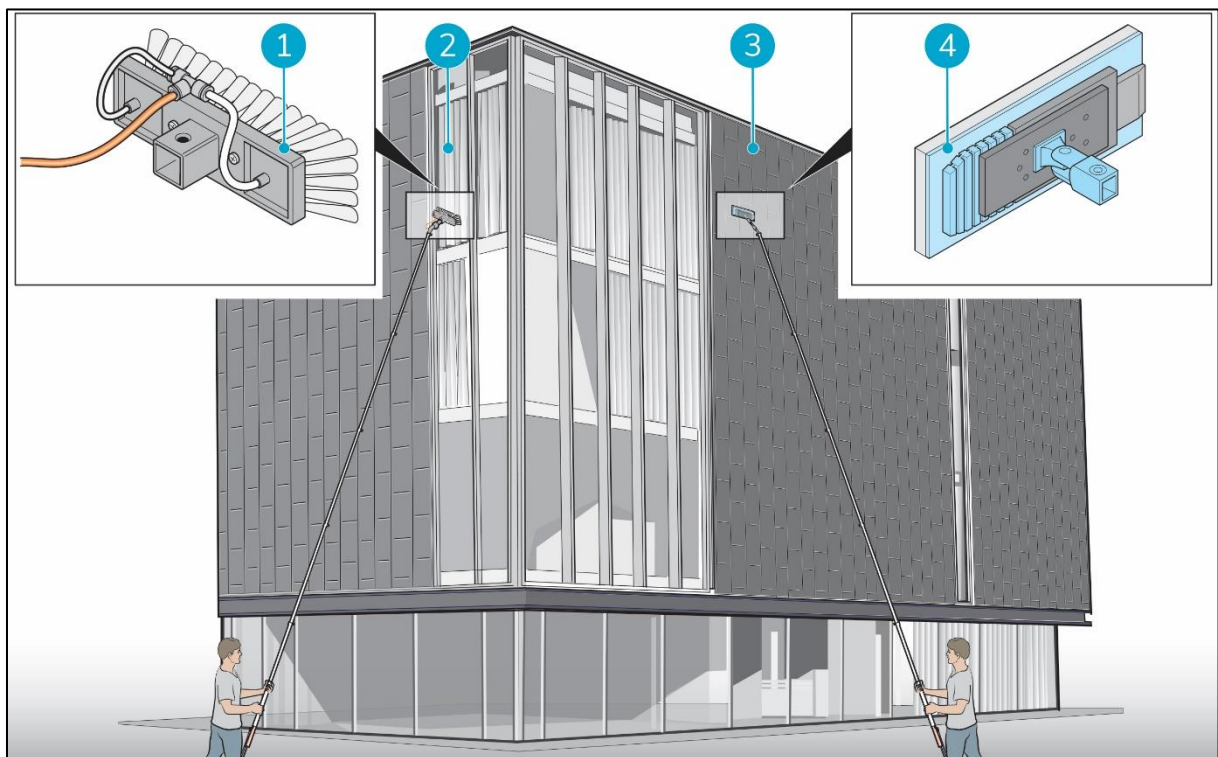

Figure 1
The i-wash Basic and Pro Reach are specialized tools. The tools are used for outdoor cleaning. The brush (Figure 1, pos 1) is used for glass surfaces (Figure 1, pos 2) and the pad (Figure 1, pos 4) is used for painted or coated surfaces (Figure 1, pos 3).